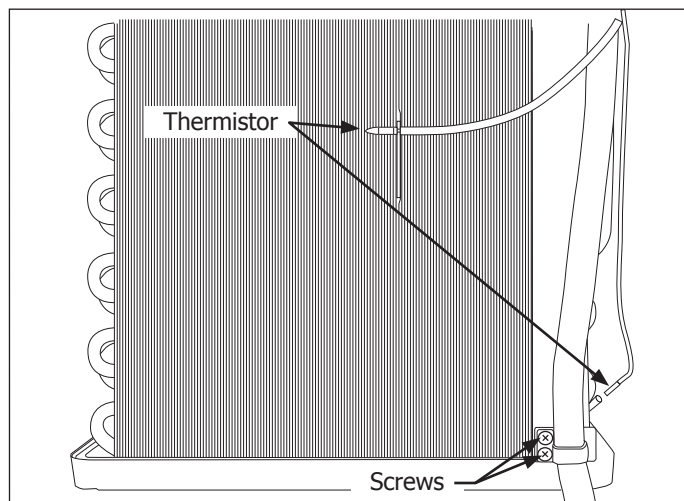

Figure 4-79.
10. Extract the two screws securing the power cord to the bottom of the control box. Pull power cord from unit. (See Figure 4-79)